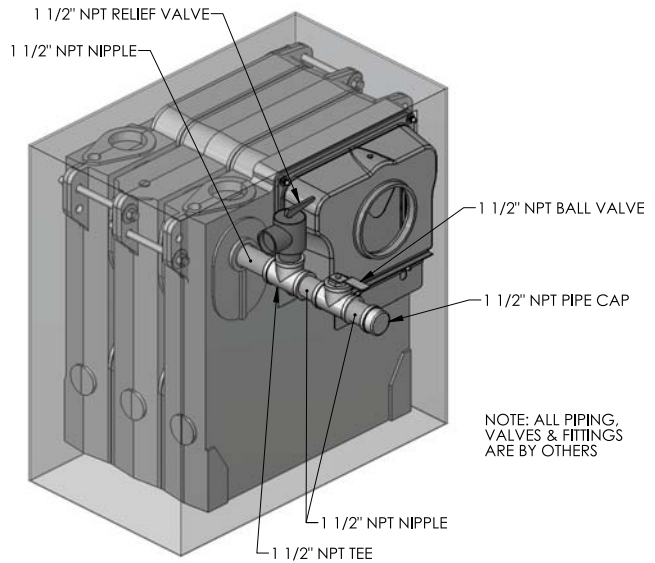

Figure 4.1: Skim Valve Piping
3. Install a skim valve and fittings in the relief valve tapping. See Figure 4.1.